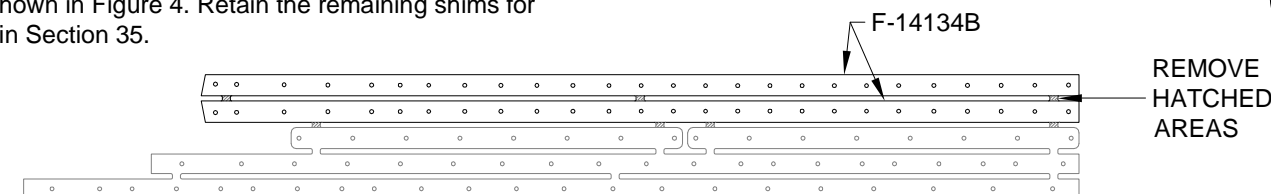

FIGURE 4: SEPARATE F-14134 HINGE SHIMS
Step 9: Separate the F-14134B Cowling Hinge Shims as shown in Figure 4. Retain the remaining shims for use in Section 35.